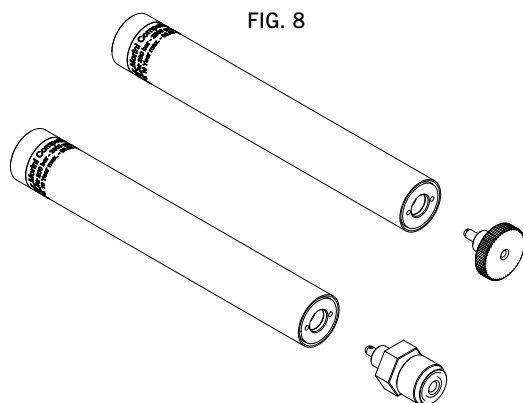

FIG. 8
10. FILLING THE CYLINDER (FIG. 8)
11. EMPTY OUT A CYLINDER (FIG. 8)